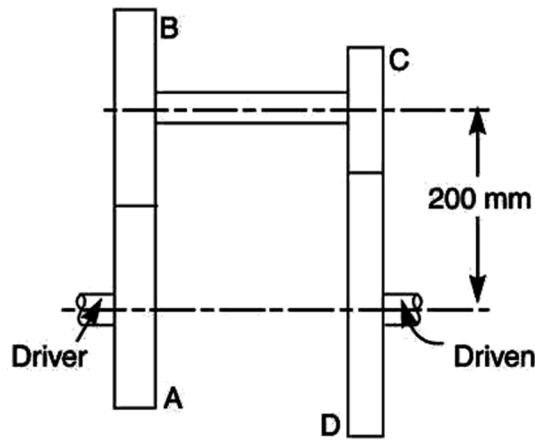

Fig. Q1 (f)
- f) The speed ratio of the gear train, as shown in **Fig. Q1 (f)**, is to be 12. The module pitch of gears A and B is 3.125 mm and of gears C and D is 2.5 mm. Calculate the suitable numbers of teeth for the gears. No gear is to have less than 24 teeth. (6 marks)